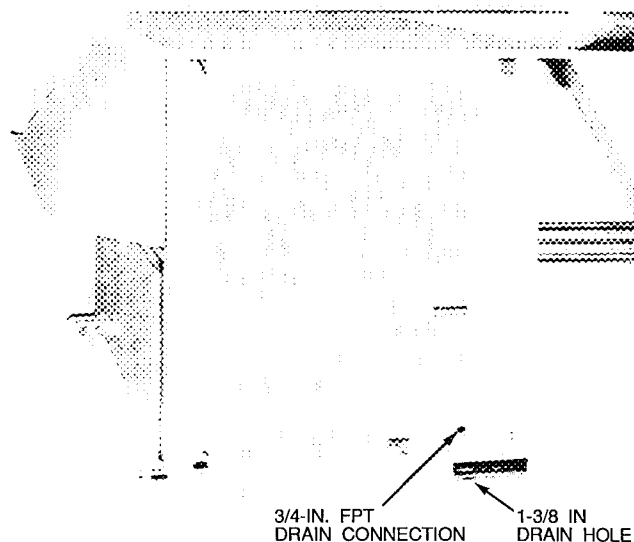
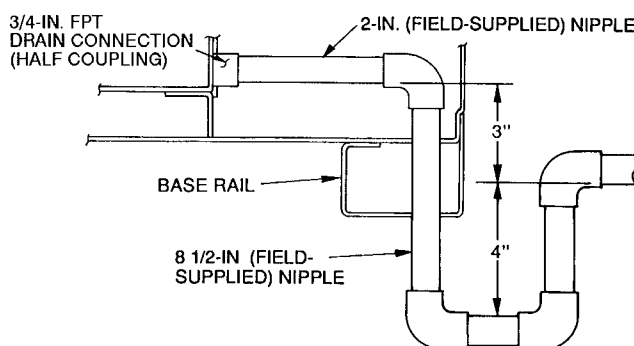

Fig. 11 — Condensate Drain Details
Fig. 12 — Condensate Drain Piping Details
Step 6 — Trap Condensate Drain — See Fig. 11 for drain location. One 3/4-in. half coupling is provided inside unit evaporator section for condensate drain connection. An 8 1/2 in. x 3/4-in. diameter and 2-in. x 3/4-in. diameter pipe nipple, coupled to standard 3/4-in. diameter elbows, provides a straight path down through hole in unit base rail (see Fig. 12). A trap at least 4-in. deep must be used.